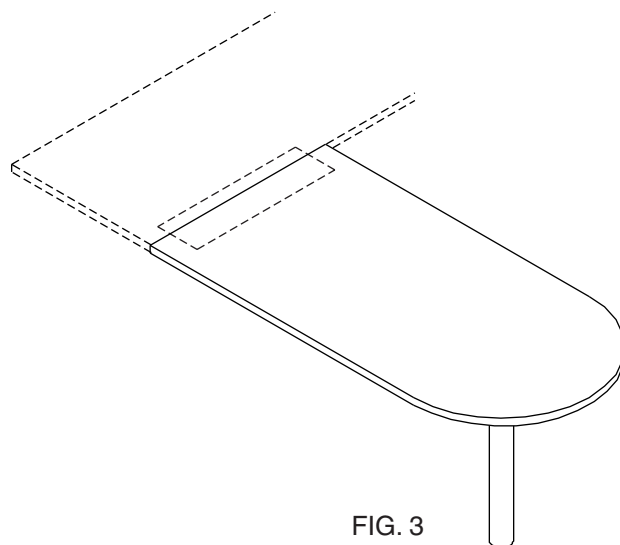

FIG. 3
1. When the square end of a “D” worksurface is to be attached to an adjacent worksurface (Figure 3), you will use the large splice plate and screws that are included with the worksurface. The “D” worksurface is pre-drilled to accept the splice plate. Due to the wide variety of locations where the “D” worksurface might be attached to the adjacent worksurface, pilot holes will need to be drilled once the final location is determined. Pilot holes should be 3/16” dia. x 5/8” deep.